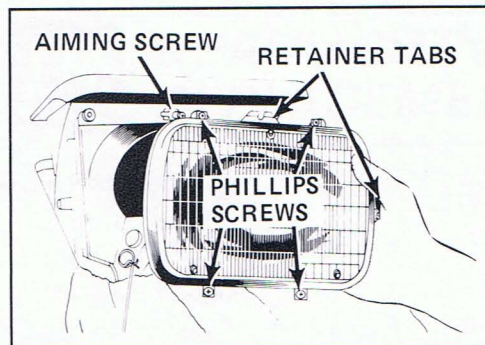

Figure 6 - Removing headlight with retainer
12. Rotate the headlight assembly slightly counter-clockwise until the retainer tabs are clear of the aiming screws. DO NOT remove or adjust these screws. See Figure 6.
13. Remove the 4 Phillips screws from the 2-piece retainer which surrounds the headlight. See Figure 6. Separate the